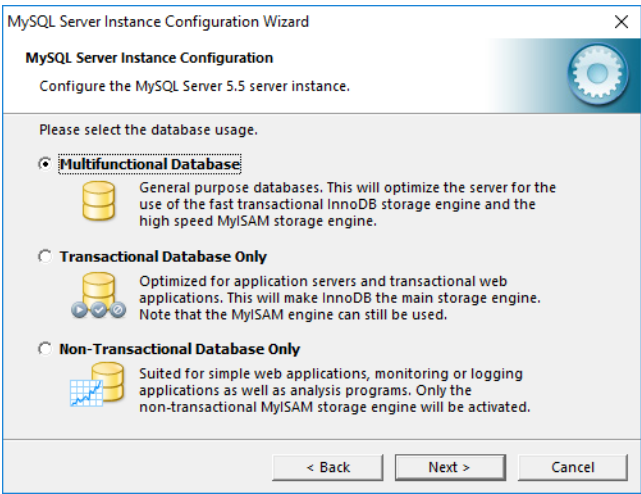

Figure A10
4. Leave "Multifunctional Database" selected and click "Next". (Figure A10)